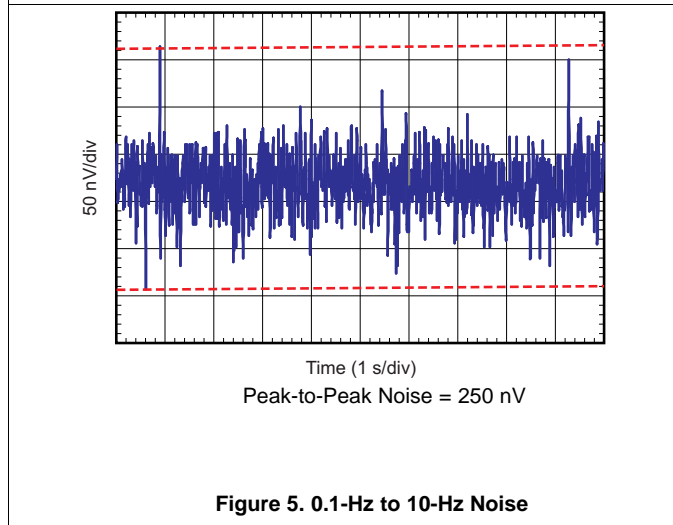

Figure 5. 0.1-Hz to 10-Hz Noise
0.1-Hz to 10-Hz Noise	Figure 5